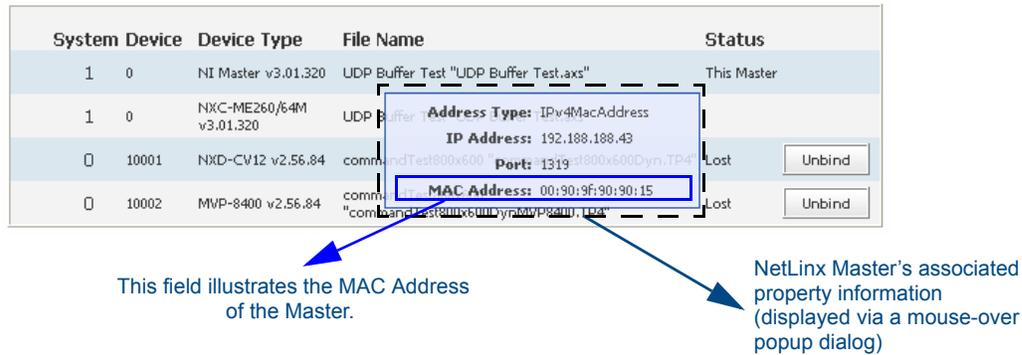
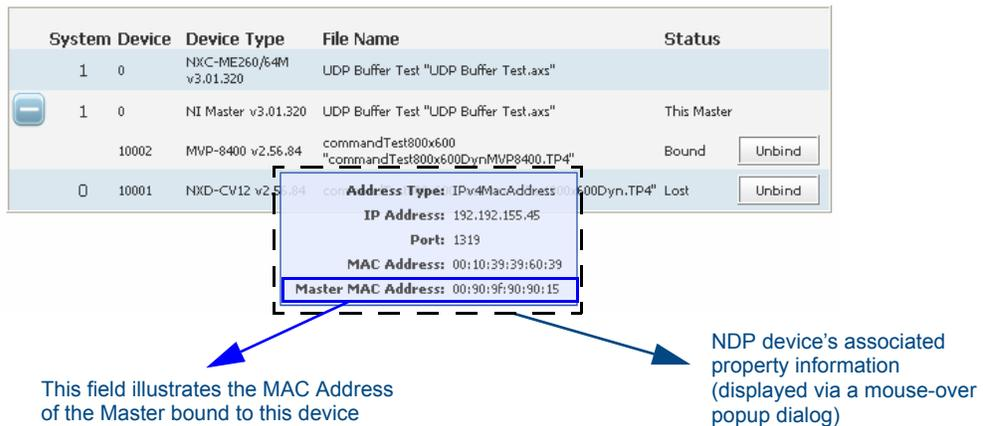

FIG. 63 Manage NetLinX Devices page - showing a sample mouse-over popup dialog
FIG. 64 Manage NetLinX Devices page - showing a sample mouse-over popup dialog
1. Hover the cursor over a particular device within the listing to display a mouse-over popup dialog (FIG. 63).
- If the device is one that is bound to a Master, the popup also displays an additional Master MAC Address field, which should match the MAC Address information for the bound target Master (FIG. 64). Notice that the Master MAC Address in FIG. 64 should match the MAC Address of the Master in FIG. 63.